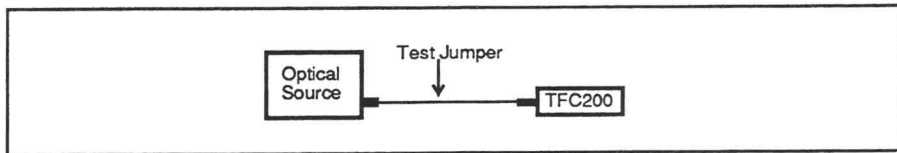

Fig. 2-4. Test Fiber Setup.
- 1) Using a test jumper, connect the optical source to the TFC200 (see Fig 2.4). The test jumper should be one to five meters long and be the same type as the fiber under test (singlemode or multimode, core and cladding size).